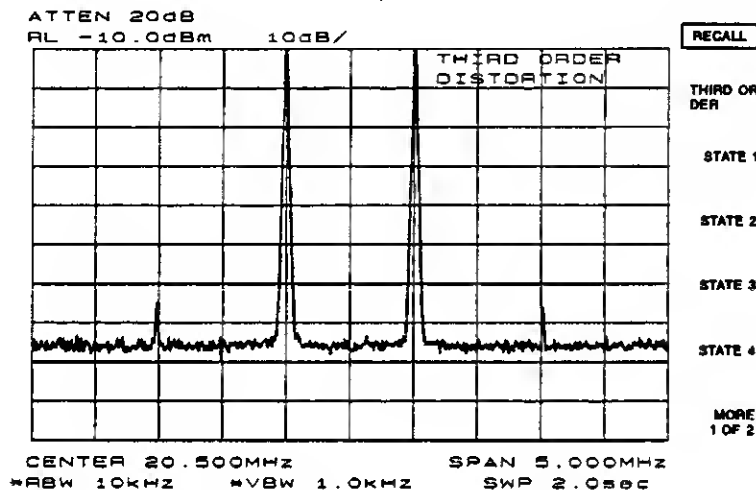

Figure 3-12. Recall menu with a previously saved title.
7. To save the instrument state, press **SAVE**, then **SAVE STATE**. Then press a softkey to enter the instrument state data into whichever register (0-9) you select. The first sixteen characters of the title are used to label the register on the recall menu. To view this menu, press **RECALL** and then **RECALL STATE** (see Figure 3-12). If a stored state has not been titled, the menu reads STATE followed by the register number chosen.